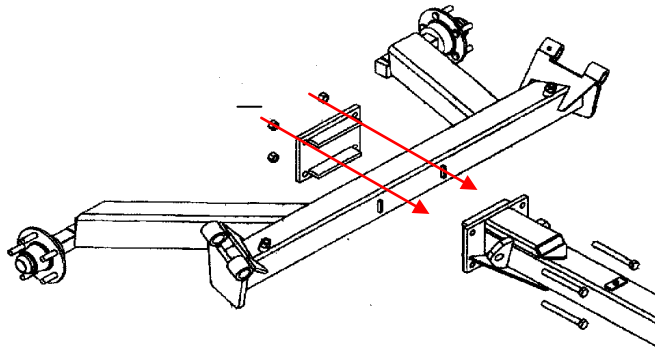

FIG. 29
- a)** Attch the drawbar (52) to the back frame (31) by bolt (27) and plate of frame (41). Attach the jack (5) and wheel (36). Fig 29.